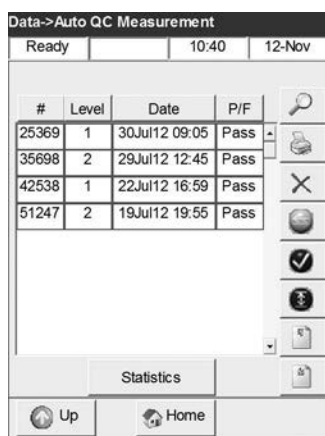

Fig. 4-33 Auto QC Measurement
3. In the **<Data - Auto QC Measurement>** screen (Fig. 4-33), press the **View** button to display the Control results (Fig. 4-34). Use the **Up** and **Down** buttons to display the previous or next page of results.
4. To print individual results, highlight the desired measurement (Fig. 4-33). To print groups of results, highlight the first measurement to be printed, press **Mark**, then select the last measurement to be printed. All the measurements in between will be selected. Press **All** to select all results.